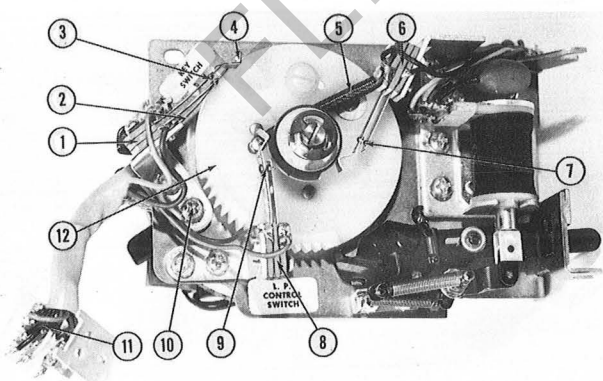

FIG. 1
2. Remove Cancel Wheel Spring (Fig. 1, Item 5) and measure the over-all length.
4. Disconnect orange wire from Pin 12 of the Plug (Fig. 1, Item 11) and solder it to Pin 2 (with the red wire).
5. Remove Key Switch and Bracket Assembly (Fig. 1, Item 1) by removing two screws (Item 10). Form Blade (Fig. 1, Item 2) to 15° (Item 2).
6. The Cancel Wheel (Fig. 1, Item 12) should be in the rest position with all credits cancelled off. The Key Switch and Bracket Assembly (Item 1) should be positioned with the contacts open .015-.020" (Item 3). The Vee formed portion of the longer contact blade must rest on the center area of the Delrin Boss as shown in Figure 1, Item 4. Establish one credit on the Cancel Wheel, the contacts must close with overtravel.
Assembly (Fig. 1, Item 6) to provide .020" opening of the contacts (Item 7). Advance the Cancel Wheel to the seven credit position, the contacts should make with overtravel. The long contact blade must bear on the fiber cam at all times.
8. Establish two credits on the Cancel Wheel. Position the LP Control Switch and Bracket Assembly (Fig. 1, Item 8) to provide .020" opening of the contacts (Item 9). Advance the Cancel Wheel to the three credit position, the contacts should make with overtravel. The long contact blade must bear on the fiber cam at all times.